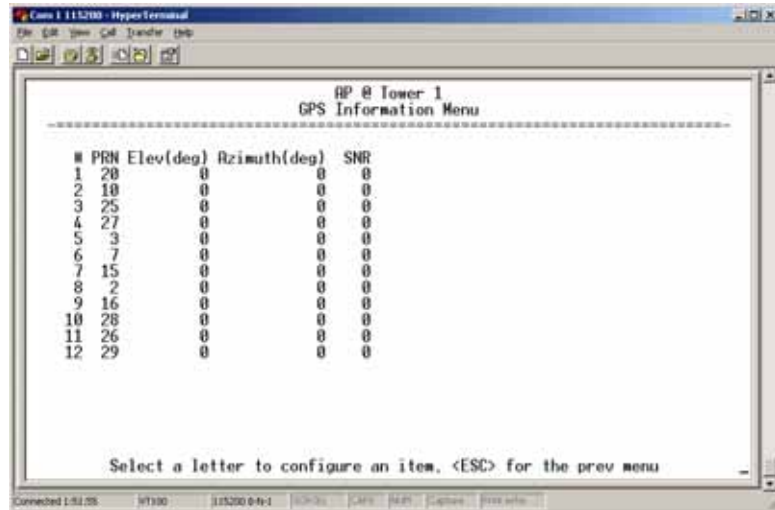

Figure 3-88. GPS Information Menu
- **GPS Information**—Shows data about the individual satellites being received, including the Pseudo-Random Noise (PRN) code (a unique bit stream for each satellite), the satellite’s elevation (in degrees), azimuth (in degrees), and the signal-to-noise ratio of the carrier signal (SNR). Figure 3-88 on Page 116 shows a layout example for this screen.